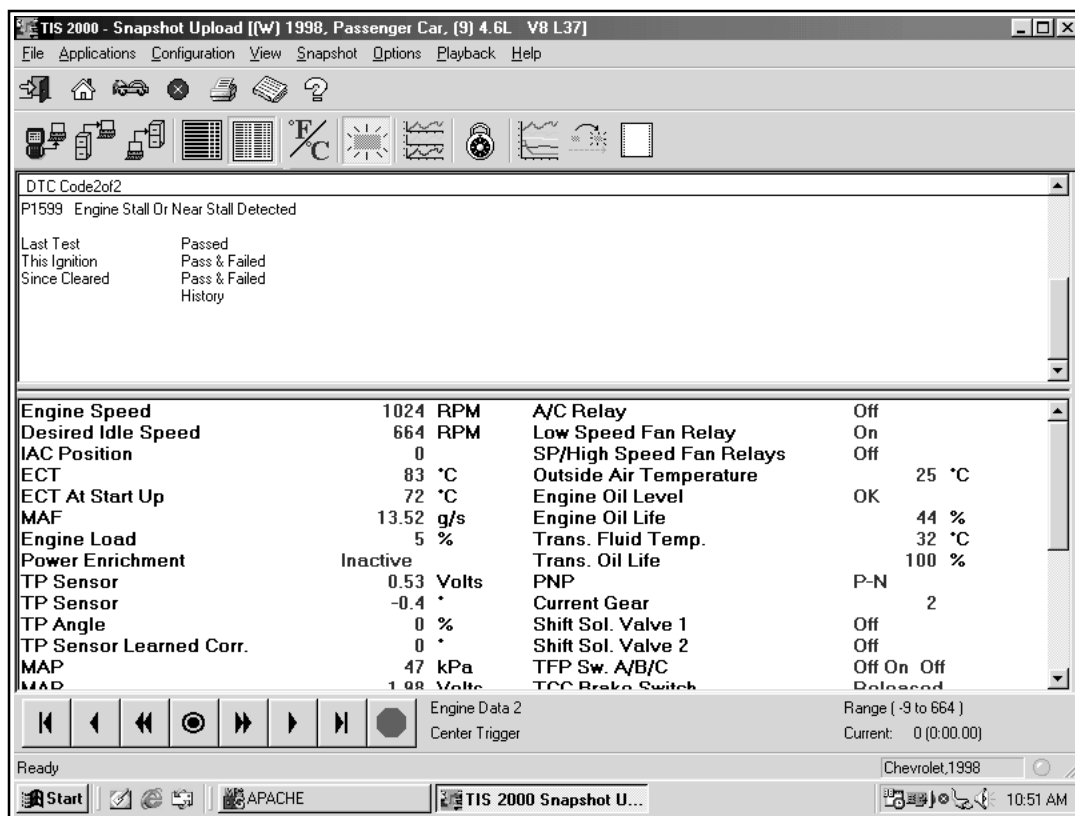

Figure I-68, DTC Display (2 of 2)
2. If more than one DTC is set for a frame, scroll bars will appear at the right side of the DTC window. To view other DTCs (Figure I-68), click-and-drag the scroll box or use the scroll arrows.